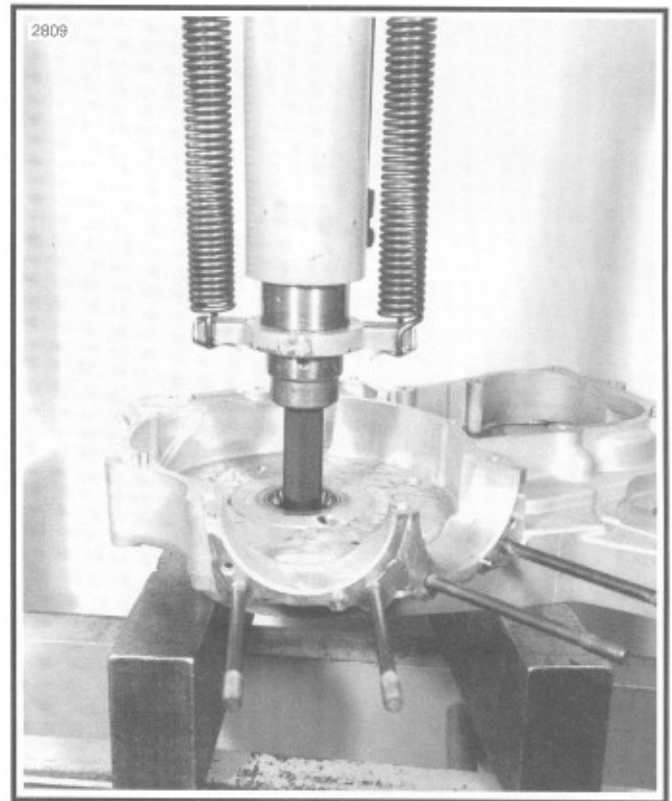

Figure 3-77. Sprocket Shaft Outer Race Removal
12. See Figure 3-77. Use CRANKSHAFT BEARING TOOL (Part No. HD-94547-80) to remove sprocket shaft outer races.